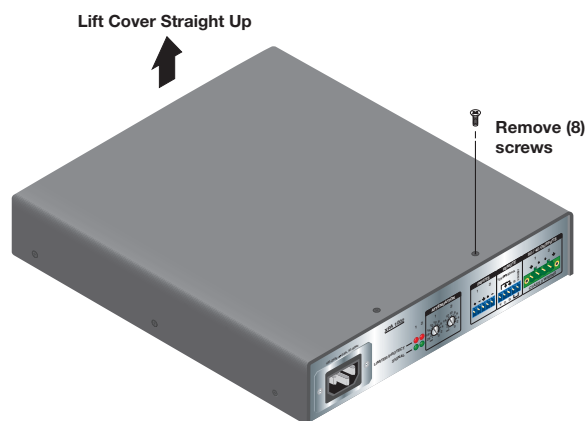

Figure 5. Removing the Cover
2. Remove the 8 screws from the top and sides of the XPA and lift off the cover (see figure 5).